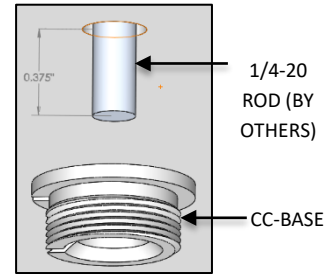

FIG. 15 - GRID CEILING
- Add a light thread locking compound to the 1/4-20 ROD (by others). Then thread CC-BASE to 1/4-20 ROD protruding through the ceiling material as shown in FIG. 15.